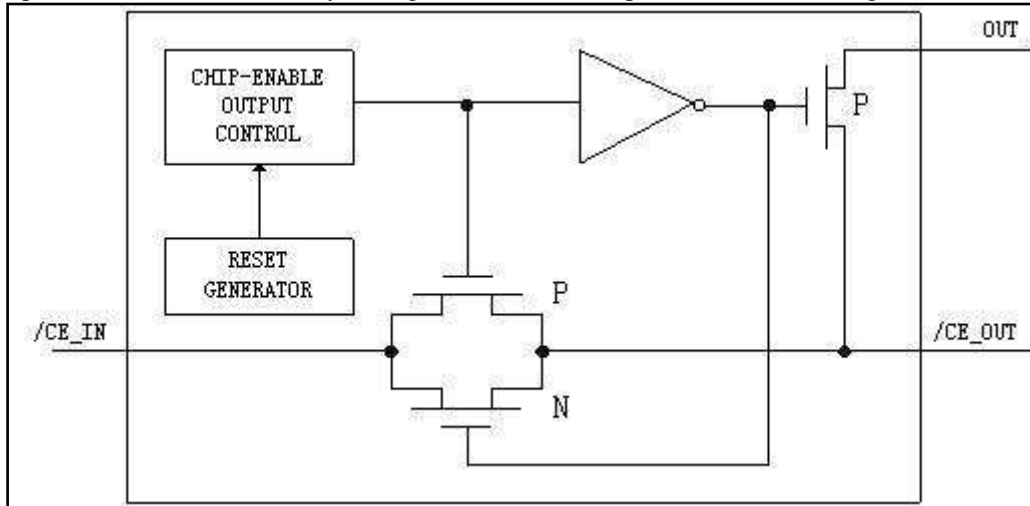

Figure 7 Chip-Enable Transmission Gate
Internal gating of chip-enable (CE) signals prevents erroneous data from corrupting CMOS RAM in the event of an under-voltage condition. The PT7C4909/4910 use a transmission gate from /CE_IN to /CE_OUT. During normal operation (reset not asserted), the transmission gate is enabled and passes all CE transitions. When reset is asserted, this path becomes disabled, preventing erroneous data from corrupting the CMOS RAM. The short CE propagation delay from /CE_IN to /CE_OUT enables the PT7C4909/4910 to be used with most microprocessors. If /CE_IN is low when reset asserts, /CE_OUT remains low for typically t_{RCE} to permit completion of the current write cycle. Figure 7 shows the chip-enable transmission gate.